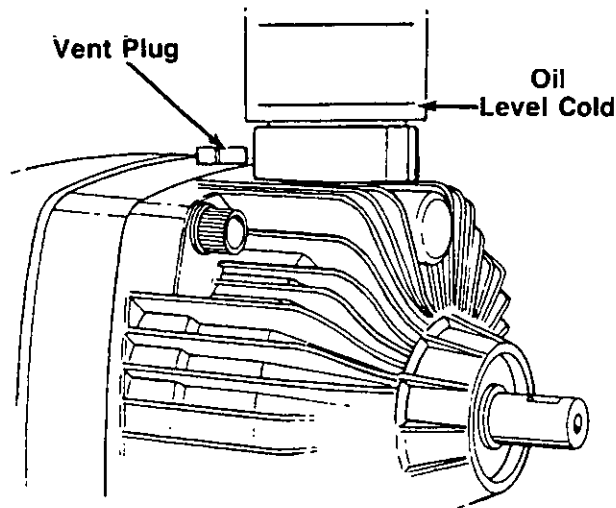

FIGURE 17.
The transmission fluid level should be checked prior to initial use. The level should not be above the COLD mark which is about $\frac{1}{4}$ " from the bottom of the reservoir/expansion tank. See figure 17.
3. Check the oil level in the reservoir/expansion tank. See figure 17.